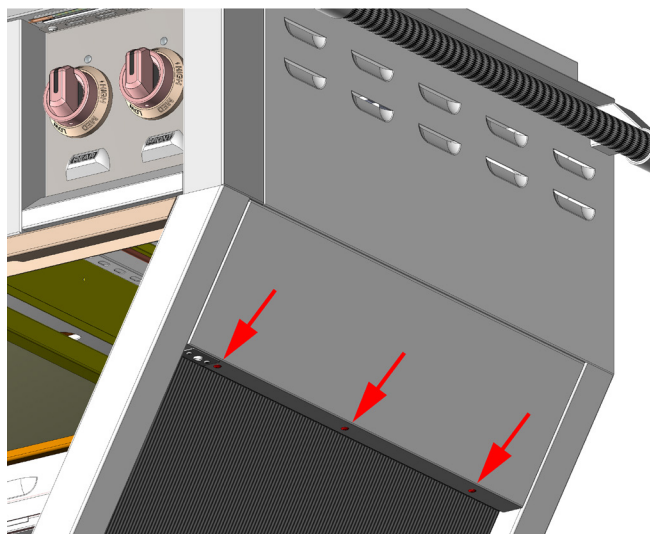

FIG. 8
8. Remove the last 3 screws at the right-bottom of the cart as shown in Fig. 8. Panel should come off by pushing from the outside toward the interior of the unit. There is a small drain hose which also must be disconnected from inside the panel.